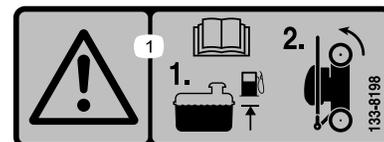

Figure 18
1. Ensure that the level of fuel in the fuel tank is no higher than what is recommended by the engine manufacturer; refer to the engine manufacturer's decal on the engine (Figure 18).